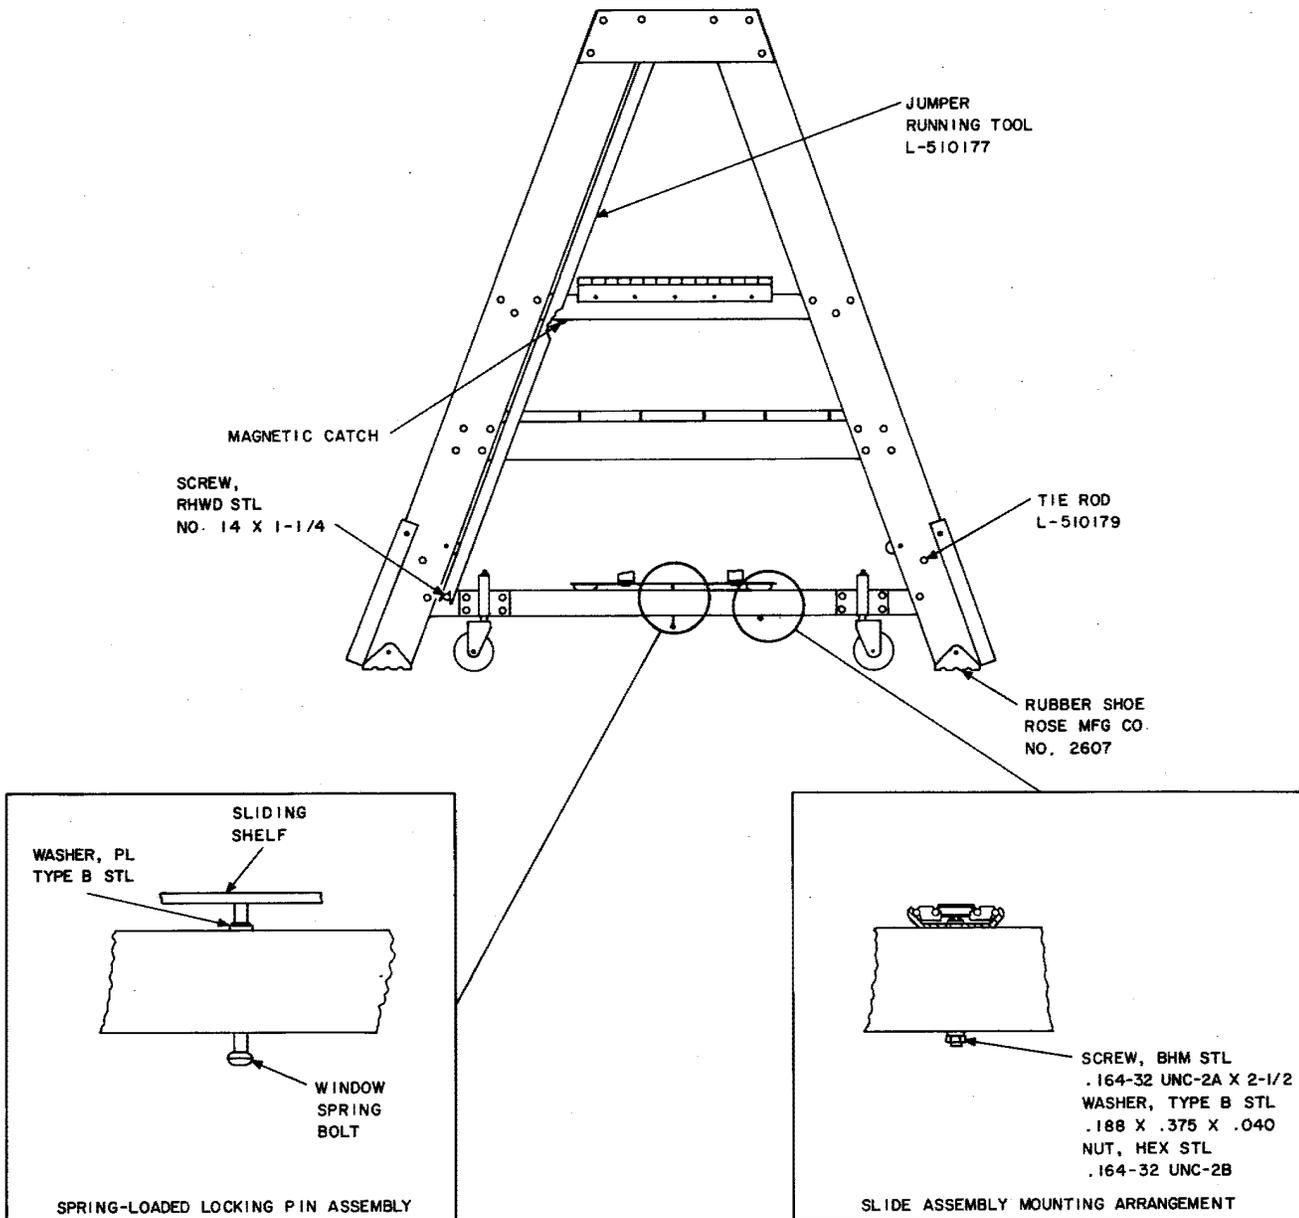

Fig. 7—KS-21415 L2 Rolling Platform Ladder (Magnetic Catch, Sliding Shelf Locking and Mounting Arrangements)
4.07 Sliding Shelf: Disassembly of the sliding shelf requires removal of the brake arm assembly described in 4.06 and the pivot pin positioning the brake yoke described in 3.02. Disengage the spring-loaded locking pin (window spring bolt) and pull the shelf out to the full extension of the slide assembly and align the slots in the slide assemblies with the fastening screws (Fig. 7). Using a 3-inch C screwdriver to hold the screwhead, remove the nut with a 417A tool, 1/4- and 3/8-inch open double-end flat wrench.